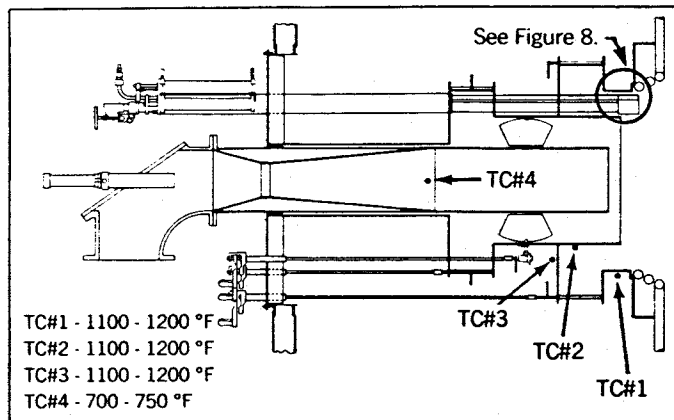

Figure 7 Suggested thermocouples for monitoring cooling air on dual register burners.
2. Install permanent thermocouples on register and burner to determine if cooling air to out of service burner is adequate (Figure 7). Monitor thermocouples and adjust cooling air by using compartment dampers to keep burner cool.